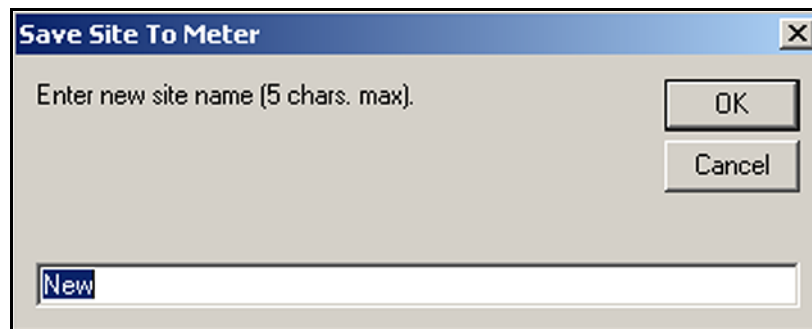

Figure 32: Site Name Screen
2. A window opens similar to *Figure 32* below. Enter the desired name, and click [OK].